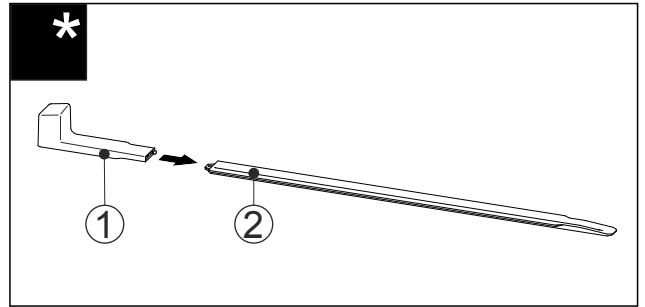

Fig. 60
- Attach the installation handle Fig. 60 (1) to the levelling rail Fig. 60 (2).